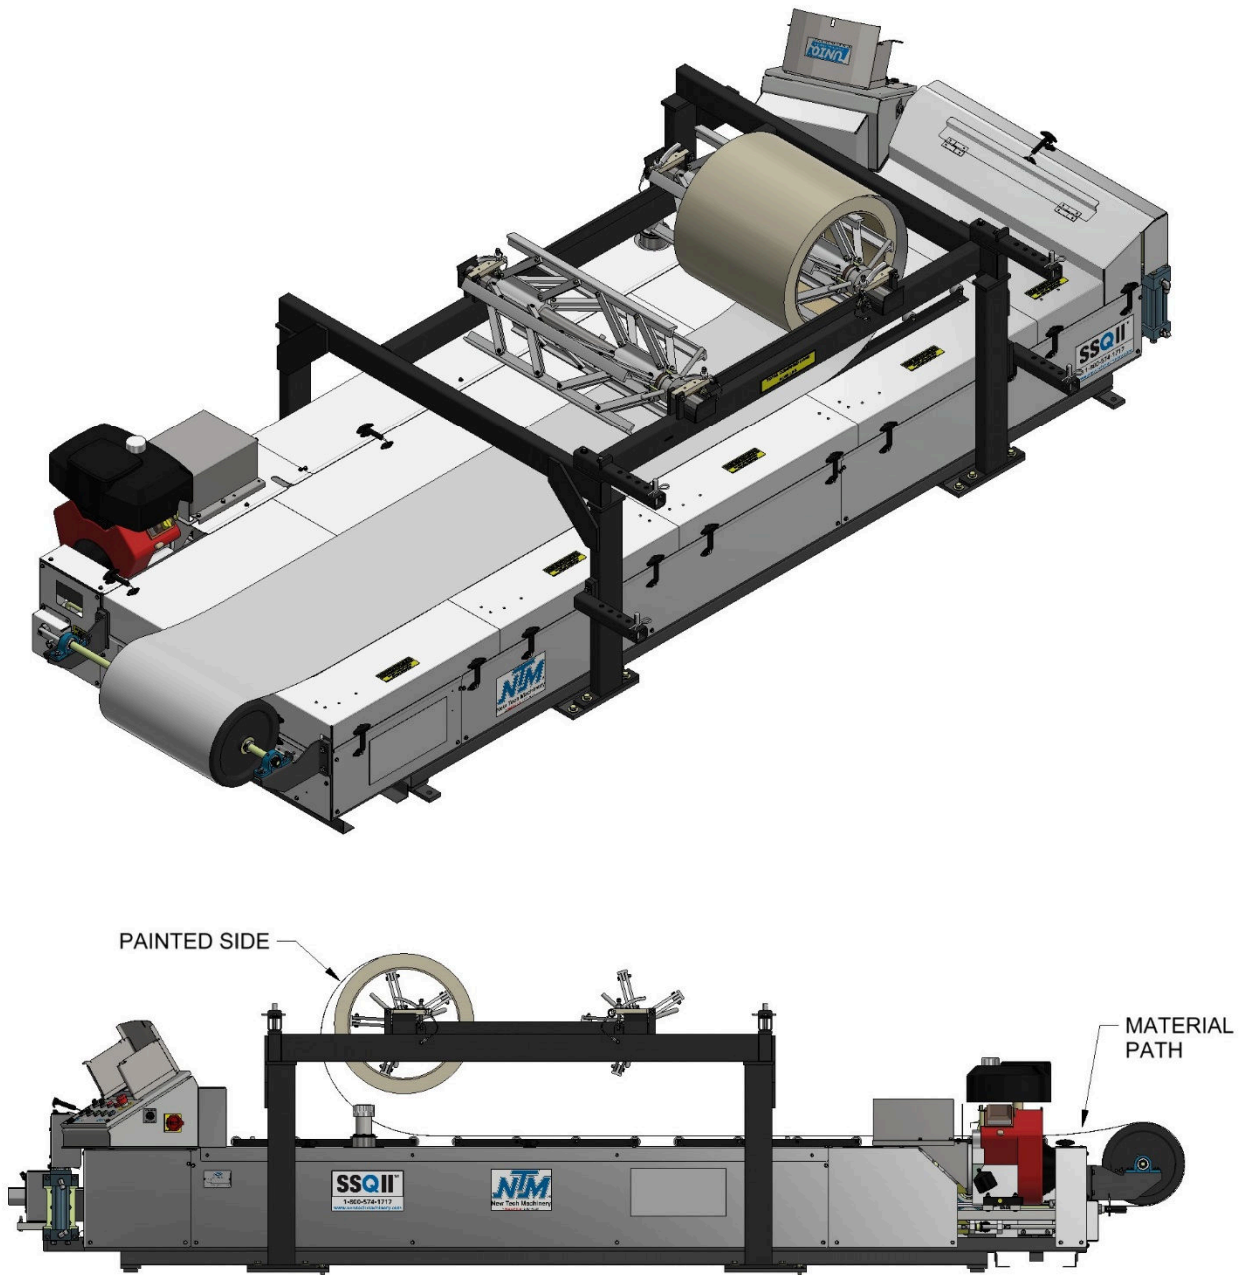

Figure 20: Material Routing
2. Using an approved lifting device, lift the reeled coil into the cradles on the reel stand making sure that the tail of the coil is in the correct position (Figure 20) then remove the lifting device.